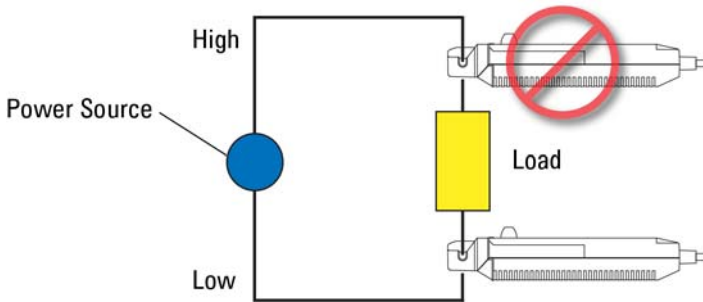

Figure 5. Clamp Onto the Low-Voltage Side of Circuit
- 6 At high frequencies, common mode noise may affect measurements taken on the high voltage side of circuits. If this occurs, reduce the frequency range of the measuring instrument or clamp onto the low-voltage side of the circuit (as shown in Figure 5 on page 13), as appropriate.